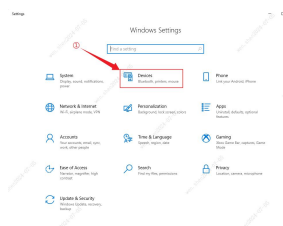

Fig.1
1. The laptop can be paired with the printer that needs to be connected via the system's Bluetooth function (shown in Figs.1 to 4).